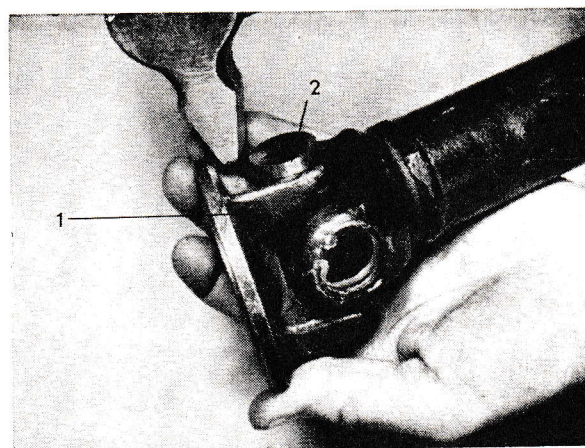

Fig. 9. Disassembling universal joint.
3. Tap the free companion flange yoke (1, fig. 9) as far as possible towards the cross centre with a hammer. This will cause needle bearing sleeve (2) to creep half-way out at the side you tap.
7. Remove companion flange yoke (1) and drive out the remaining needle bearing sleeve.